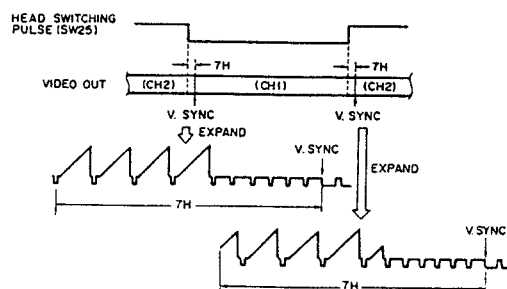

Fig. 4-102
#### (1) Setting the Head Switching Point (Figs. 4-102, 4-151)